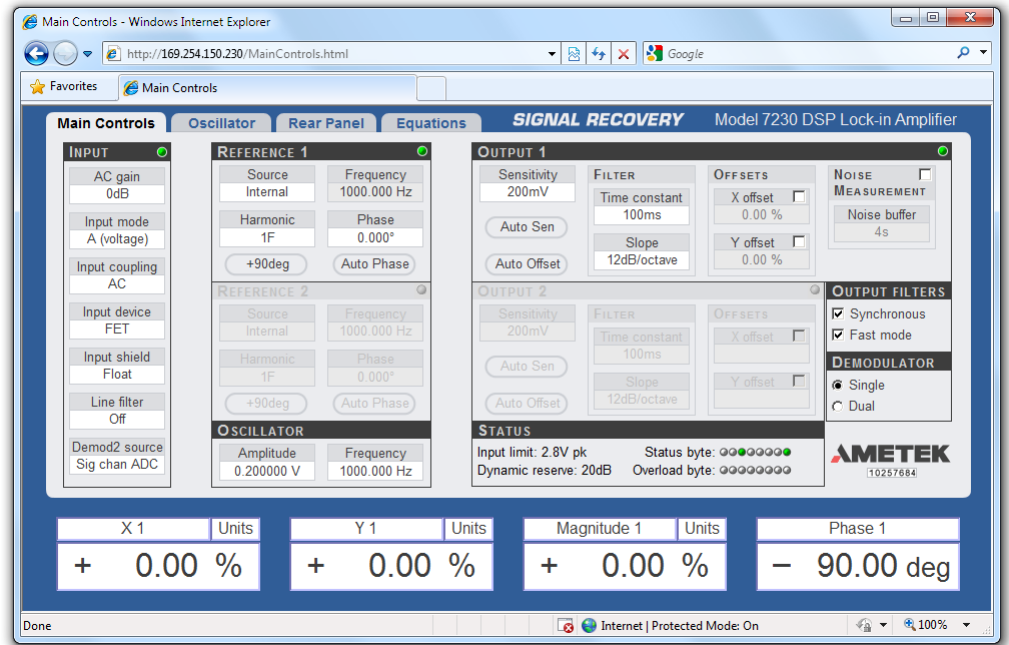

Figure 2-3, Model 7230 Main Controls Panel
- 8) Type 169.254.150.230 into the address bar and press <return>. The 7230's Main Controls panel should be displayed, as shown below in figure 2-3.